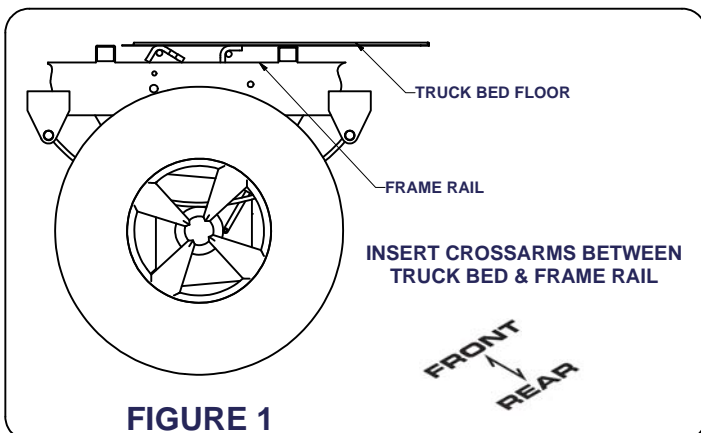

FIGURE 1
- 2) Install crossarms by sliding them into gap between the truck bed and frame from inside the wheel well. **As shown in Figure 1.**